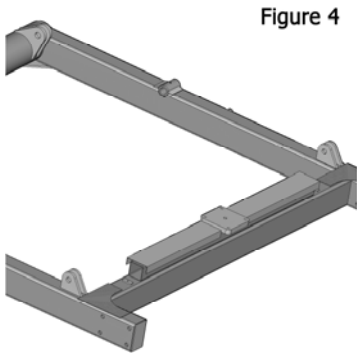

Figure 4
5. Weld the pad onto the 2" x 2" tubing and add any necessary gussets to stabilize the pad from vibration. Figure 4 **IMPORTANT:** The pad must sit flat on top of the tubing.